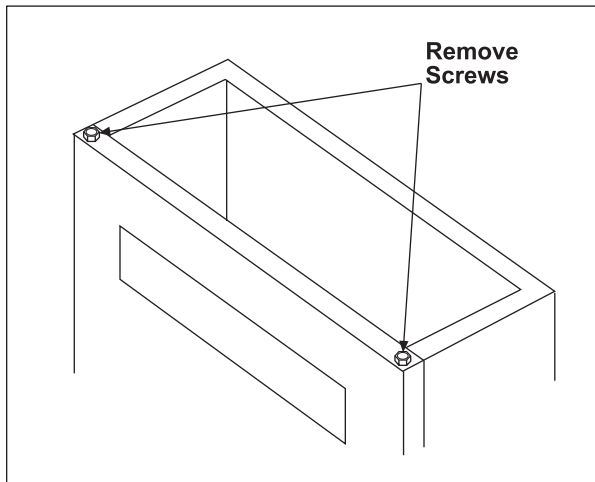

Figure 17
5. Remove screws holding fryer tank (Figure 17).